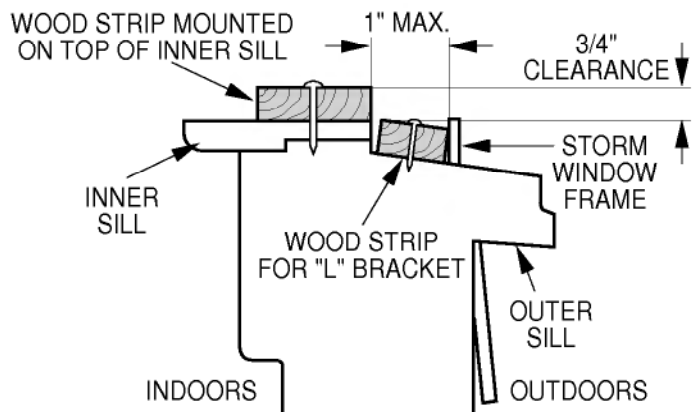

Figure 22B
- Step 3. Install a second wood strip (approximately 6" long 1-1/2" wide and of same thickness as first strip) in the center of the outer sill flush against the back off the inner sill. This will raise the "L" bracket as shown Figure 22B.